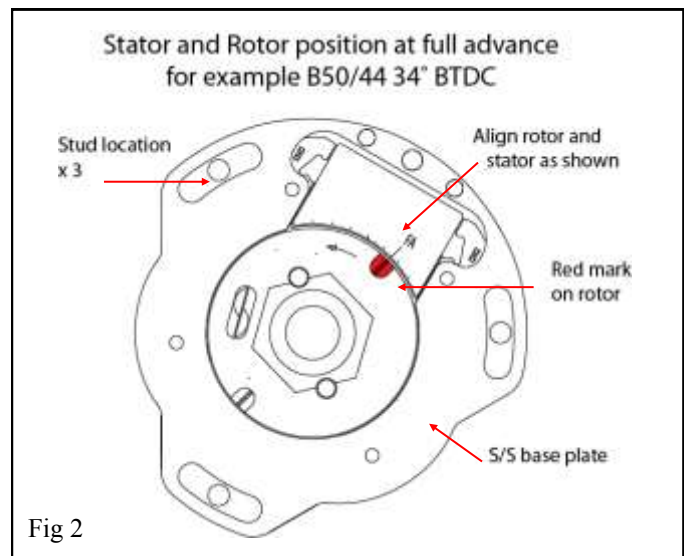

Fig 2
- Step 4 Fit the new stator as shown (see fig 2) with stainless steel retaining plate outermost.
- Step 4** Fit new stator in position shown (fig. 2), use the 3 spacers supplied, on the **threaded studs and use the original retaining nuts. Don't fully tighten yet.** Feed the stator cables through the crankcase using the original grommets as required. **Note:** The cables are not pre-terminated with connectors to make the cable feeding easier.
- Step 4** Fit new stator in position shown (fig. 2), use the 3 spacers supplied, on the threaded studs and use the original retaining nuts. Don't fully tighten yet. Feed the stator cables through the crankcase using the original grommets as required. **Note:** The cables are not pre-terminated with connectors to make the cable feeding easier.